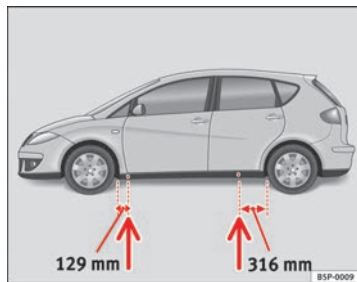

Fig. 177 Jack position points
- Locate the jacking point under the door sill closest to the wheel to be changed ⇒ fig. 177.
Recesses at the front and rear of the door sills mark the jacking points ⇒ fig. 177. There is only one jacking point for each wheel. Do not fit the jack anywhere else.